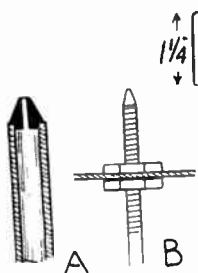

Fig. 1—The jet tube
A jet must be fitted to the top (threaded portion) of the tube. Those fortunate readers who own a lathe could turn one up from a piece of brass rod and sweat it in the tube. A  $\frac{1}{16}$  in. hole should be drilled through this for the spray. However, the majority of readers are not so lucky as to possess a metal-turning lathe, so for their benefit a more simple form of jet is shown at Fig. 1 (A) made as follows.